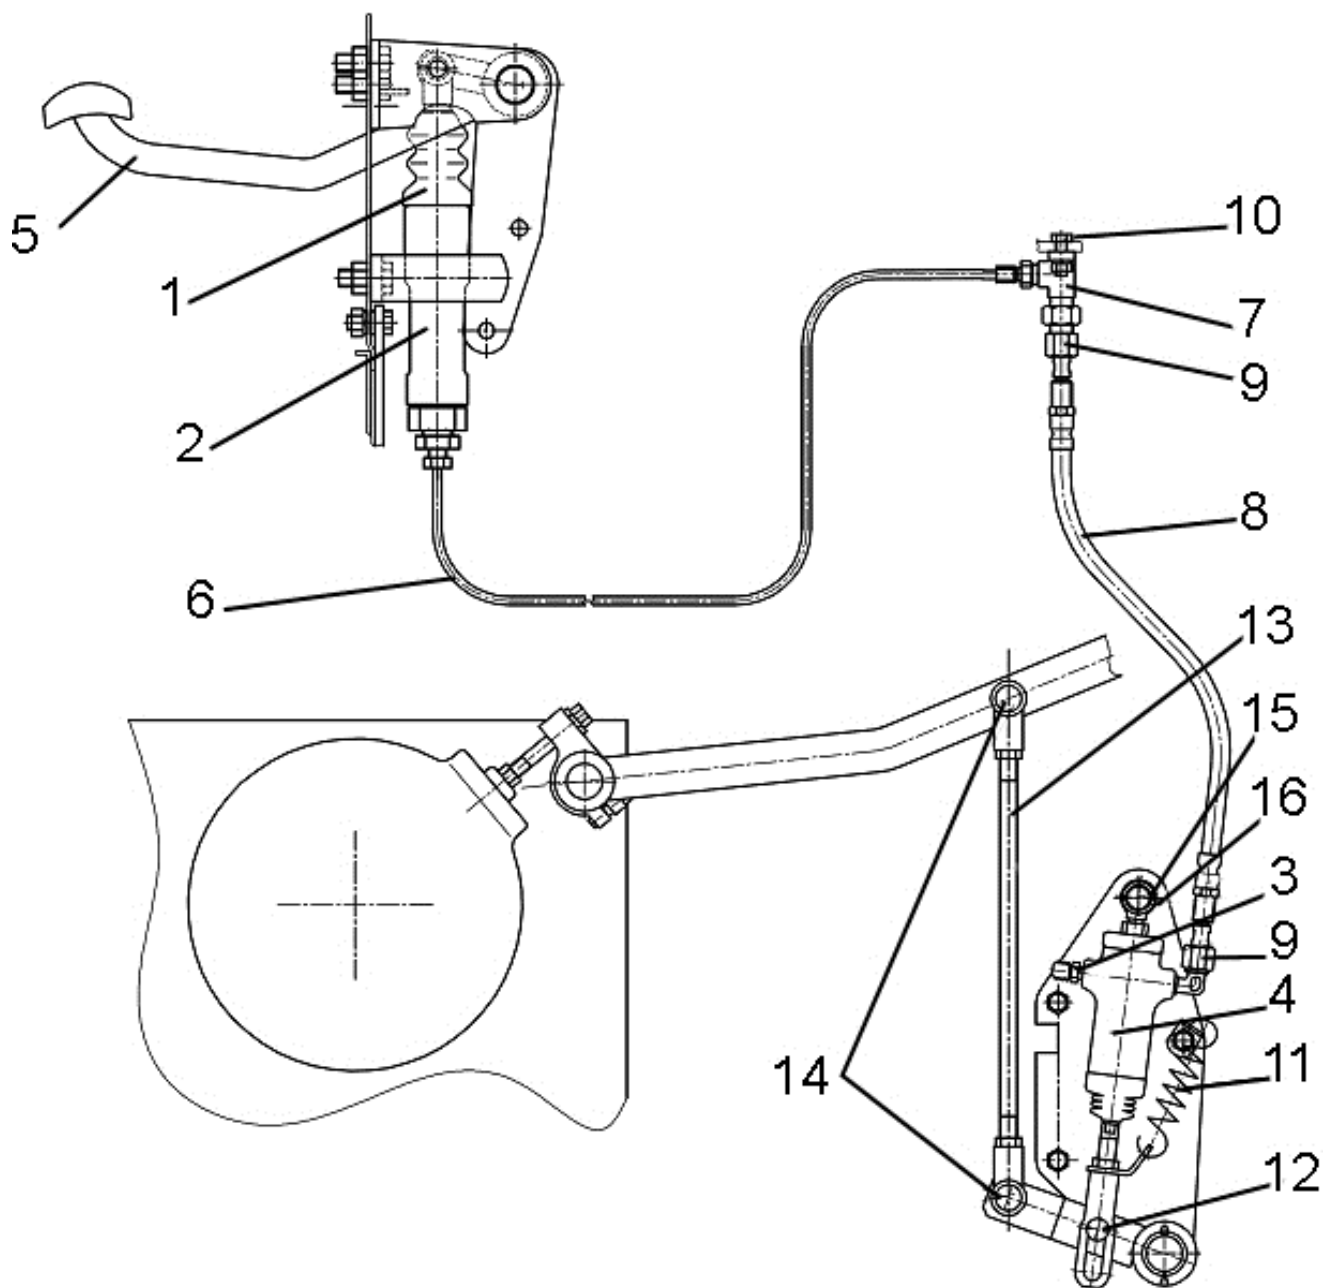

Figure 4.166
Observe the following sequence of brakes control on reversal (Figure 4.166):
- 6) remove angle 7 (Figure 4.166), having unscrewed two bolts 10;